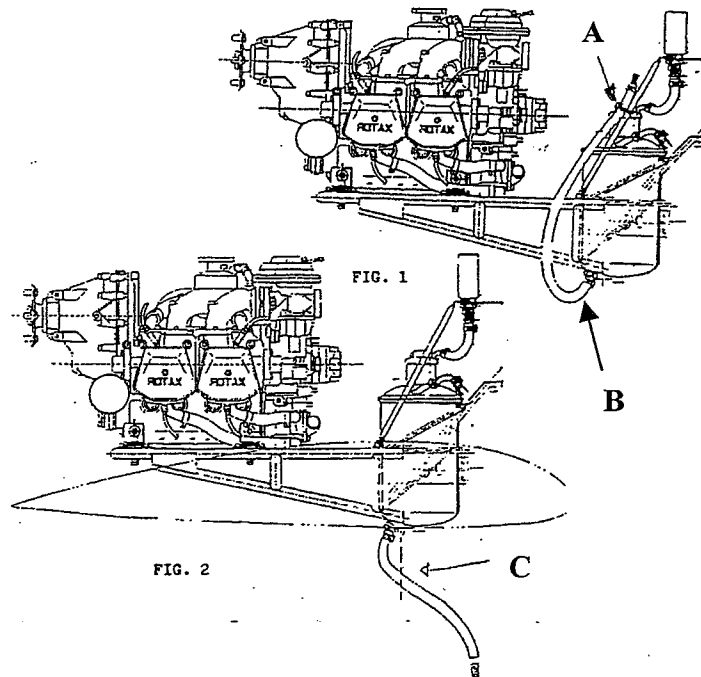

Fig. 8-4 - ENGINE OIL CHANGE AND COOLANT RESEVOIR
With reference to Fig. 8-4, unscrew the oil cap/dipstick (A) and restore the maximum level by filling the reservoir.
With reference to Fig. 8-4 and using only appropriate grade of automotive oil, proceed as follows:
The coolant level may be checked in the transparent reservoir located at the aft end of the engine (Point D in Fig. 8-4). If additional coolant is required, use only the proper engine coolant.